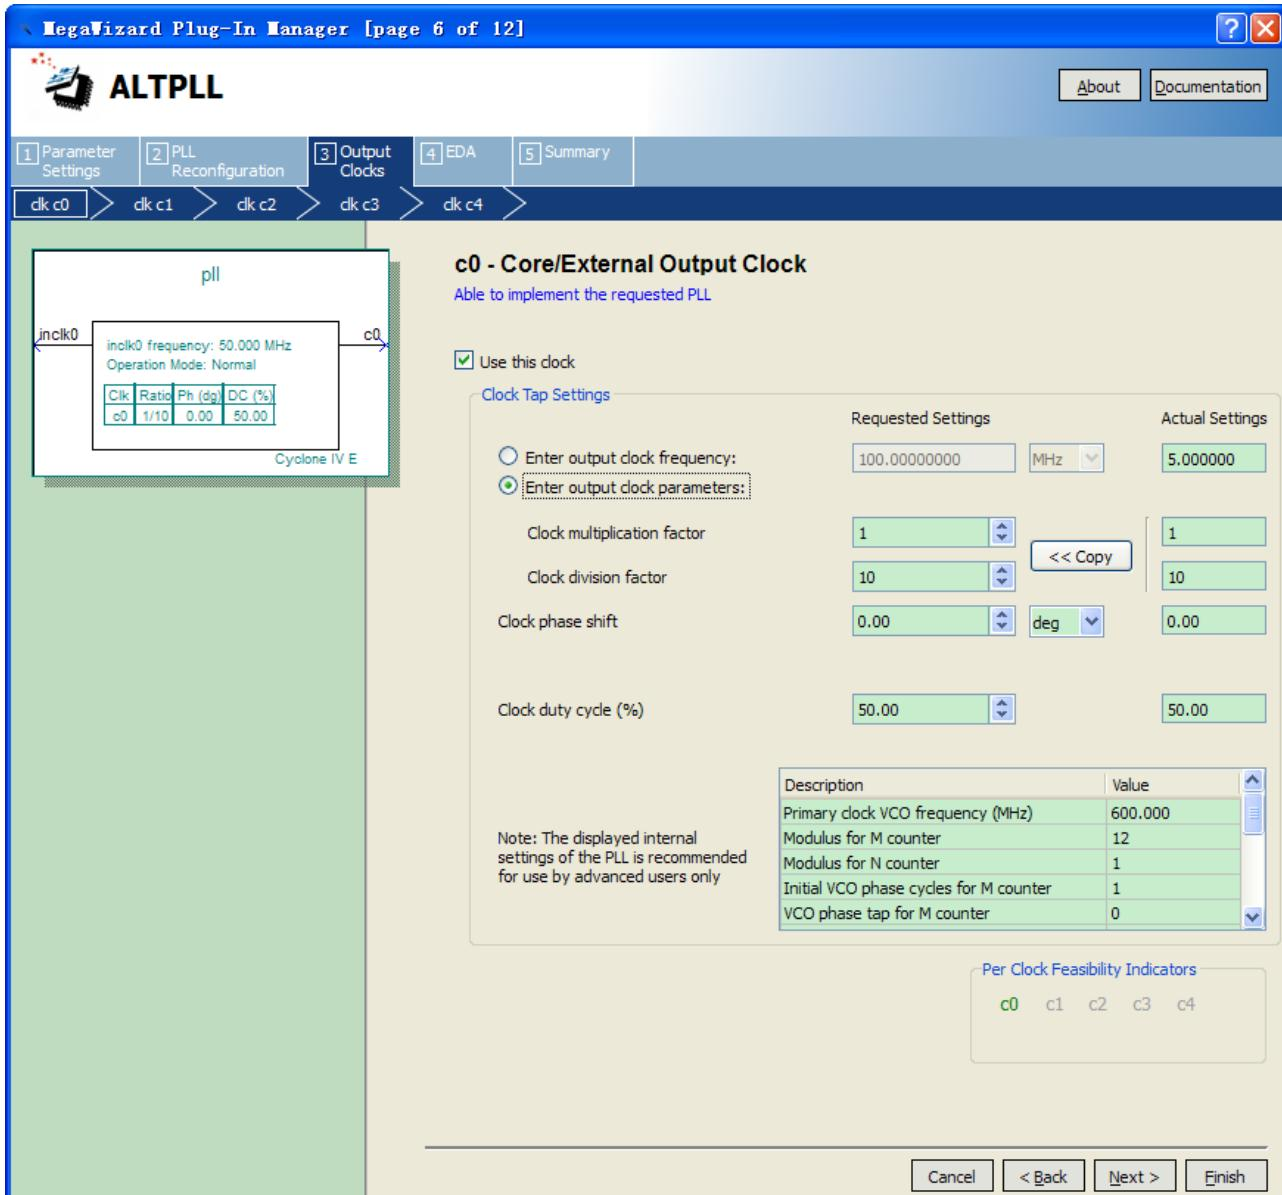

Figure 6-23 MegaWizard Plug-In Manager [page 8 of 14] Selections
8. Set the Clock division factor to **10**, as shown in Figure 6-23.